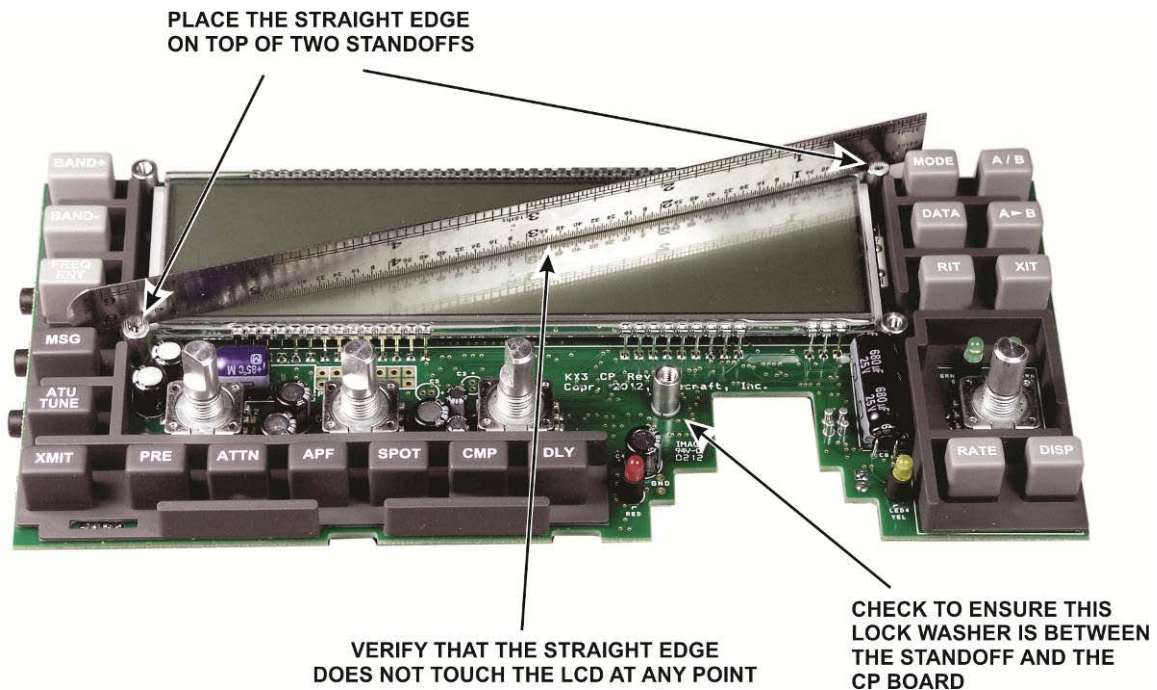

Figure 13. Checking Standoffs.
6. Straight-edge rule for checking clearances (see Figure 13, pg 13) .
☐ On the front side of the board, place a straight edge across the top of two standoffs as shown in Figure 13 and confirm that the straight edge does not touch the LCD at any point. If it does, most likely you left out one of the lock washer spacers shown in Figure 9. Move the straight edge to the remaining two standoffs and repeat the test.
- Verify that you placed a lock washer between the 4-40 standoff and the pc board as shown in Figure 13.